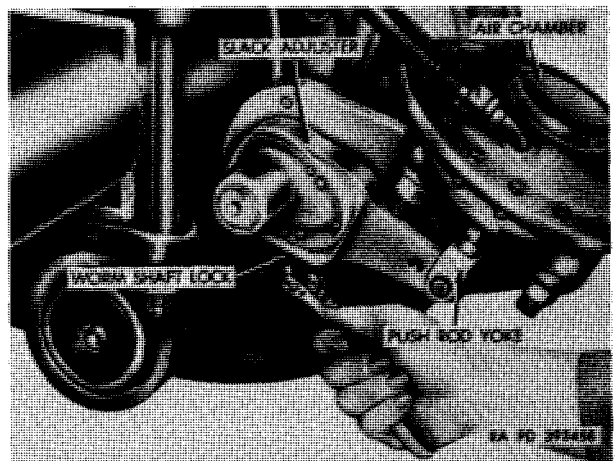
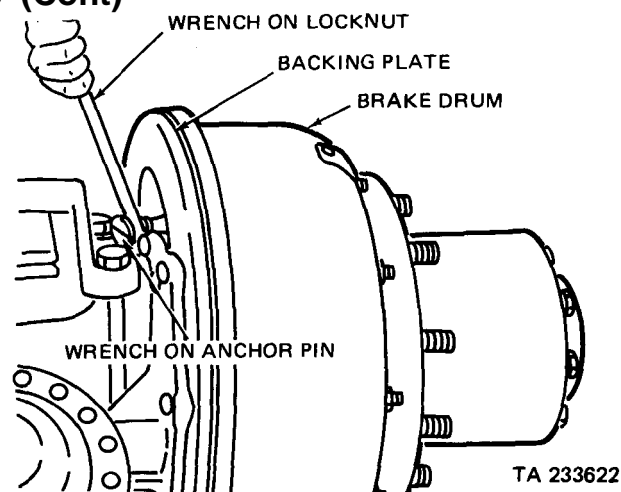
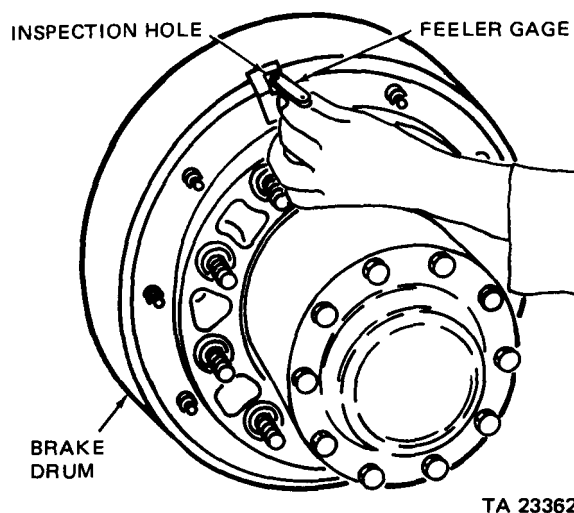

Figure 4-42. Minor brake adjustment (M127)
Figure 4-43. Major brake adjustment (Model M127)
Figure 4-44. Checking brake lining clearance with feeler gage (Model M127)
(a) Minor adjustment (fig. 4-42).
(b) Major adjustment (figs. 4-43 and 4-44). Wheels must be removed from hub (fig. 4-24) before making major adjustment to give access to inspection hole in drum.
2. Loosen locknut on brake shoe anchor pin (fig.4-43). Rotate brake drum until opening is 1½ inch from end of one brake lining, nearest anchor pin. Insert 0.005-inch feeler gage (fig.4-44) between surface of drum and brake lining and with wrench, turn anchor pin until 0.005-inch clearance is obtained. Hold anchor pin with one wrench and with a second wrench tighten locknut. Check clearance again.
3. Rotate drum until inspection hole is 1½ inch from other end of same brake shoe, nearest camshaft. Insert 0.010-inch feeler gage (fig. 4-44) and turn worm shaft (fig. 4-42) of slack adjuster until 0.010-inch clearance is obtained. Recheck clearance (2 above) at other end of brakeshoe.